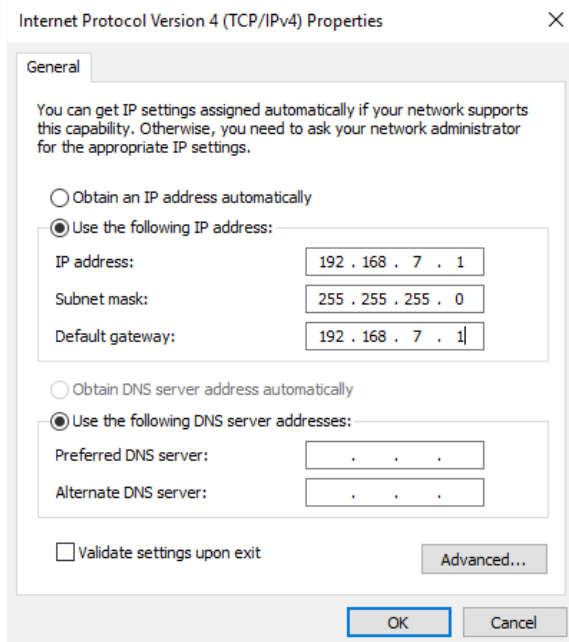

Figure 4-5 - Manual IP v4 settings. The actual values for the IP address and Default gateway are arbitrary but must match.
8. Using the same (arbitrary) numbers as in the previous section for Macintosh settings, enter the numbers you see in Figure 4-5. The **subnet mask** must be set to 255.255.255.0. The **IP address** and **Default Gateway** are arbitrary *but must be equal to each other*.